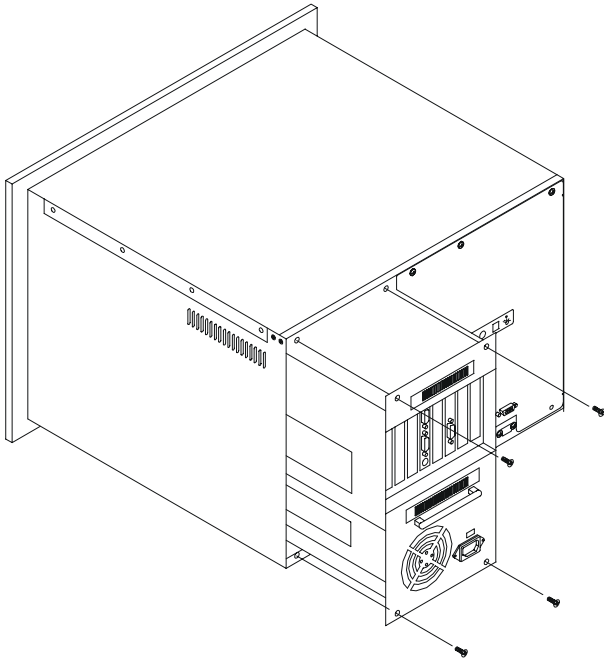

Figure 2.1: Detaching the work drawer
The AWS-8248 provides space for three disk drives underneath the work drawer. That is, one floppy disk drive, one hard disk drive and one slim CD-ROM drive. If you wish, you can add an extra hard disk drive and an extra slim CD-ROM drive above the power supply. (See Figs. 2-1 and 2-3.)
2. Detach the work drawer from the AWS-8248 unit. (See Fig. 2-1.)
(See Fig. 2-1.)
2. Detach and slide out the work drawer. (Refer Fig. 2-1.)
2. Detach the work drawer and cover from the AWS-8248 unit. (See Fig. 2-1.)
2. Detach the work drawer from the AWS-8248 unit. (See Fig. 2-1).